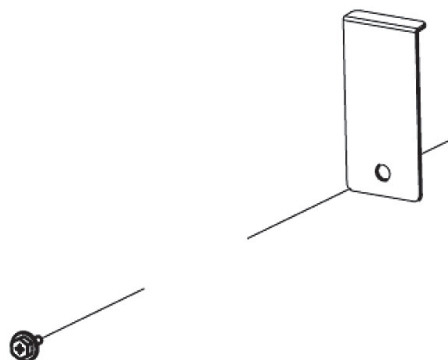

Fig. 11
2. Remove the (1 or 2) brackets that secure the coil assembly. (Fig.11)